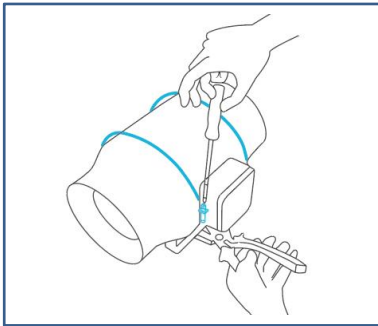

Fig.1.
- 1、 Unscrew and loosen the metal rings using a Phillips screwdriver and pliers. See the(Fig.1.)